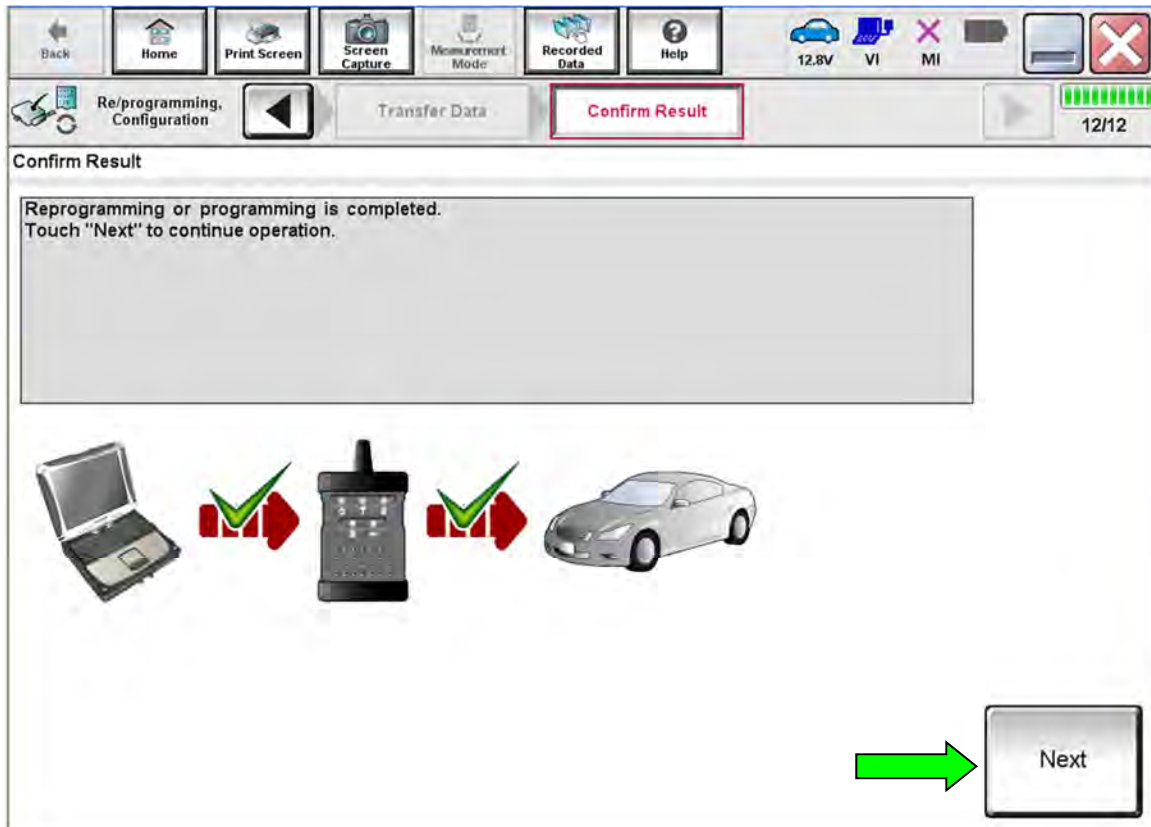

Figure 4
8. When the screen in Figure 4 displays, reprogramming is complete.
HINT: If the screen in Figure 4 does not display (reprogramming does not complete), refer to the information on the next page.